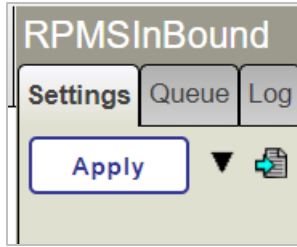

Figure 5-18: **Apply** button
3. Click **Apply** to apply the change to the production, as shown in Figure 5-18.